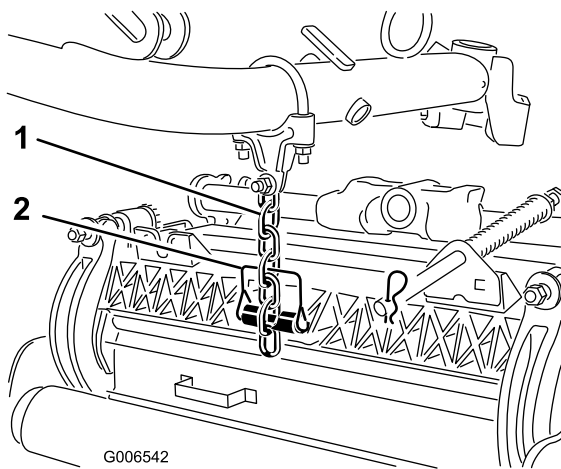

Figure 19
7. Secure the lift arm chain to the cutting unit chain bracket (Figure 19) with the snapper pin as follows: